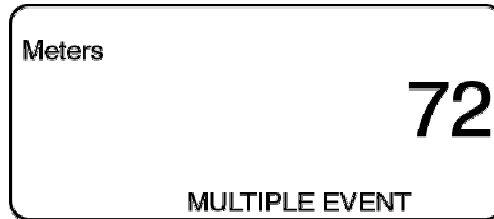

Figure 7
By depressing the **MEASURE** button again momentarily, the next event number (2) will flash, and then extinguish. The distance to event number (2) will then be displayed. Refer to Figure 7 below. This example shows that the distance to event (2) is 72 meters.